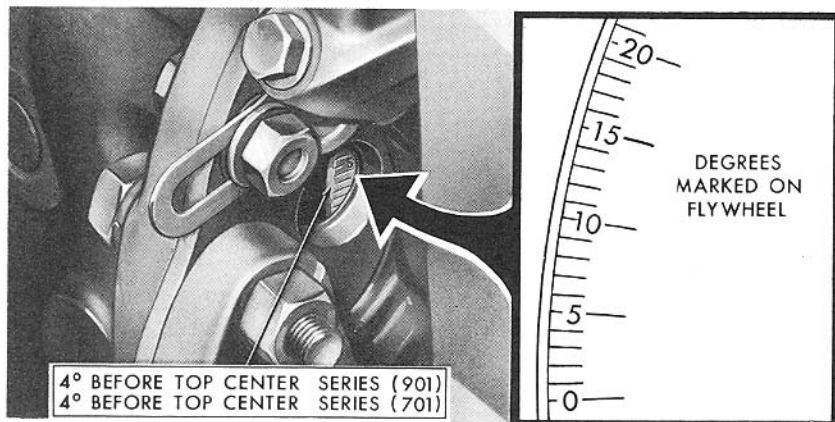

Figure 38
**Ignition Timing:** When new distributor points are installed, the ignition system should be properly timed with a timing light. Connect the timing light to the engine with the high tension lead on the No. 1 spark plug and the other two leads on the proper battery terminals. Start the engine and run it at idle speed. Direct the timing light so that it flashes through the opening in the bell housing (see Figure 38), and note the timing marks. Ignition timing should be  $4^{\circ}$  before top dead center on both Series 701 and 901 tractors at 450 engine R.P.M. Loosen the clamp screws, rotate the distributor slightly until this reading is obtained, then tighten the distributor body.